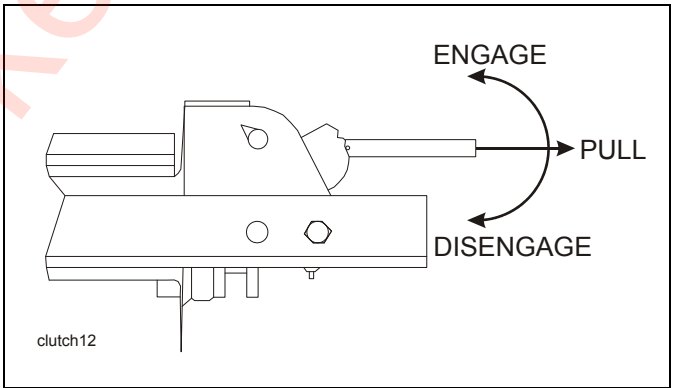

Figure 3-12: 12,000 Lb. Winch Clutch
- 1. The WINCH CLUTCH HANDLE (See Figures 3-12 and 3-13) is located on the right or curb-side end of the winch assembly.